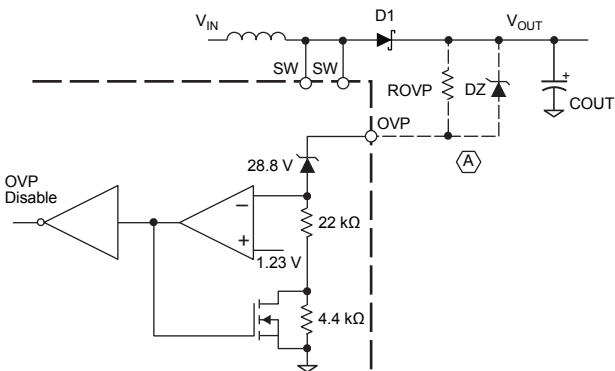

Figure 10. Overvoltage protection circuit. Three alternative configurations at (A) are available, as follows:
**Overvoltage Protection (OVP).** The A8500 has overvoltage protection to protect the IC against output overvoltage. The overvoltage level can be set, from 30 to 45 V typical, with an external resistor, ROVP, as shown in figure 10. When the current through the OVP pin exceeds 54.9 μA, the OVP comparator goes high. When the OVP pin current falls below 47.8 μA, OVP is reset.